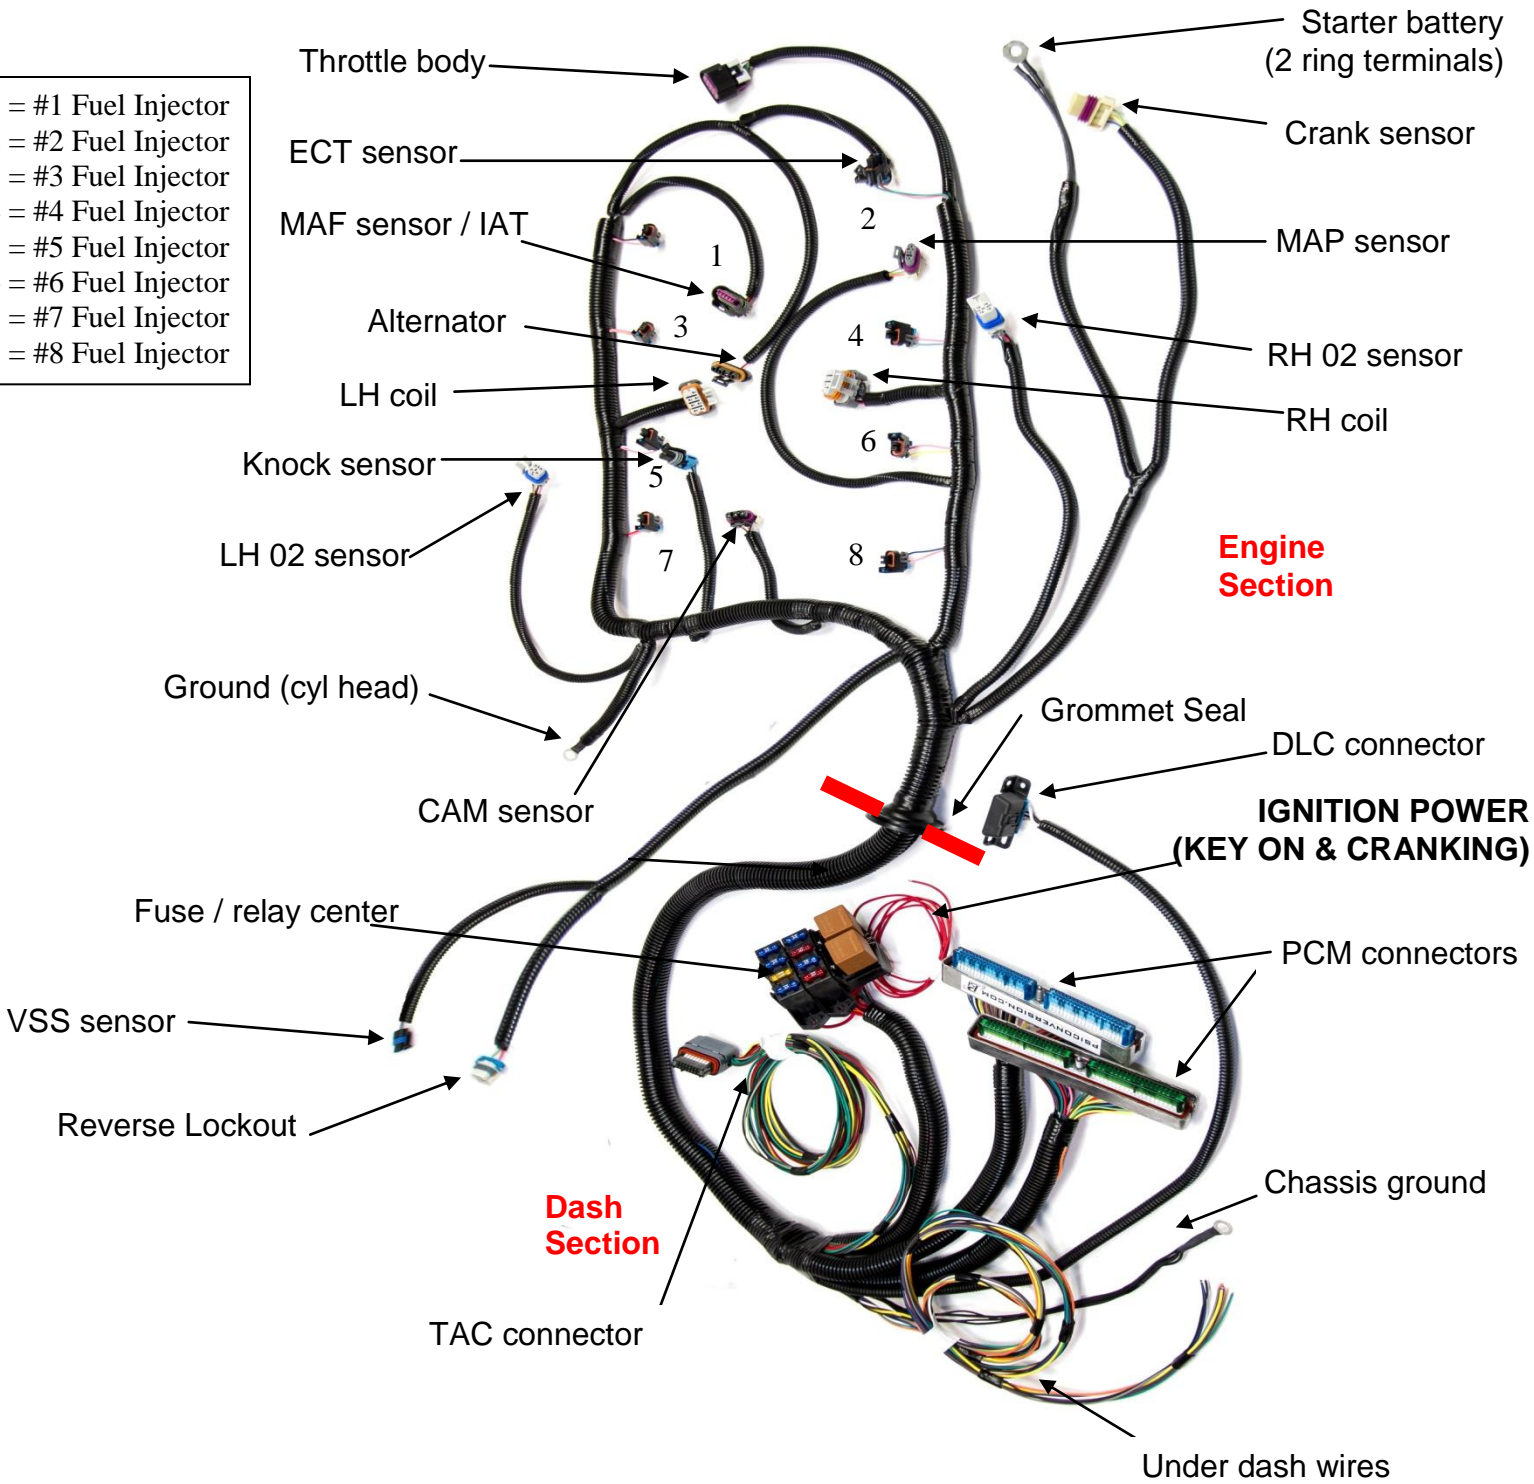

Figure 1 – Vortec w/4L60E Wiring Harness
This harness was designed with the intent of PCM mounting in the passenger compartment (e.g. glove box, or under dash). This fuel injection harness has two sections, the Engine Compartment Section, and the Dash Section, reference Figure 1 below. Note that the Engine Compartment Section is on one side of the Grommet Seal and the Dash Section is on the other side.
- 5.6 Familiarize yourself with the harness by locating each of the harness sections and by looking at the connectors on the wire ends, reference Figure 1.
- 6.3 Route the engine compartment section to the top of the engine. The engine section is designed to be separated into left side (driver) and right side (passenger) sections, in much the same way as factory wiring. Each side is wire loomed separately, **BUT IS NOT LABELED**. The passenger side of the engine section has the connectors for the Throttle Body and MAP Sensor, reference Figure 1.
- 6.9 Route the under dash wires, Figure 1, to the driver side of the dash.
- 7.1 Locate the black wires in the driver side group that end in two, small ring terminals and ground them to the engine Figure 1. (Commonly to the rear of the driver side cylinder head).
- 7.2 Using Figure 1 and specific connections indicated in Table 3 connect the wiring as directed.
Table 1 – Engine Compartment Connection Checklist (Reference Figure 1)